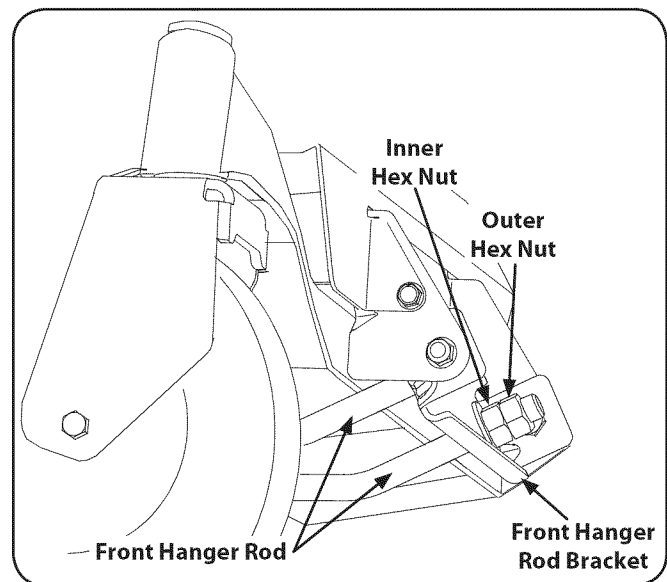

Figure 6-8
5. From the front of the tractor, loosen the outer hex nuts on the deck front hanger rod and turn them away from the inner nuts. Refer to Fig. 6-8.
6. If the front of the deck was too low, turn the inner hex nuts clockwise against the hanger bracket to shorten the front hanger rod and raise the front of the deck. Refer to Fig. 6-8.